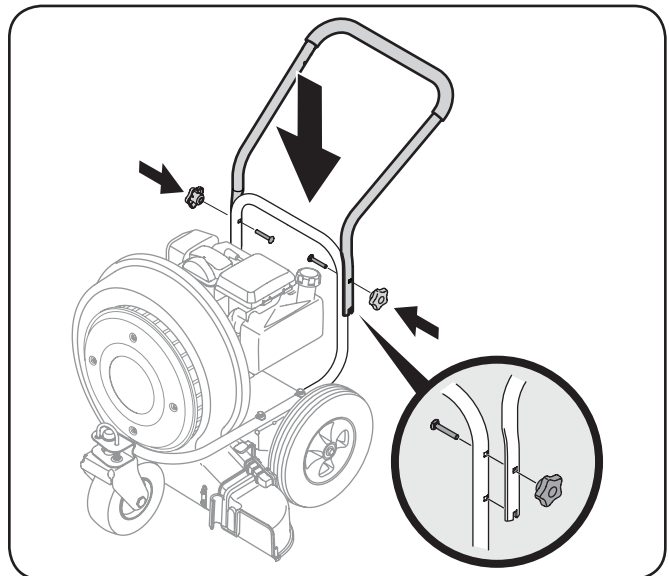

Figure 3-2
2. Place the upper over the lower handle, aligning the upper holes/metal tabs in the upper handle with the upper holes/lower holes in the lower handle. See Fig. 3-2.
3. Secure with the carriage screws and star knobs removed earlier. See Fig. 3-2.